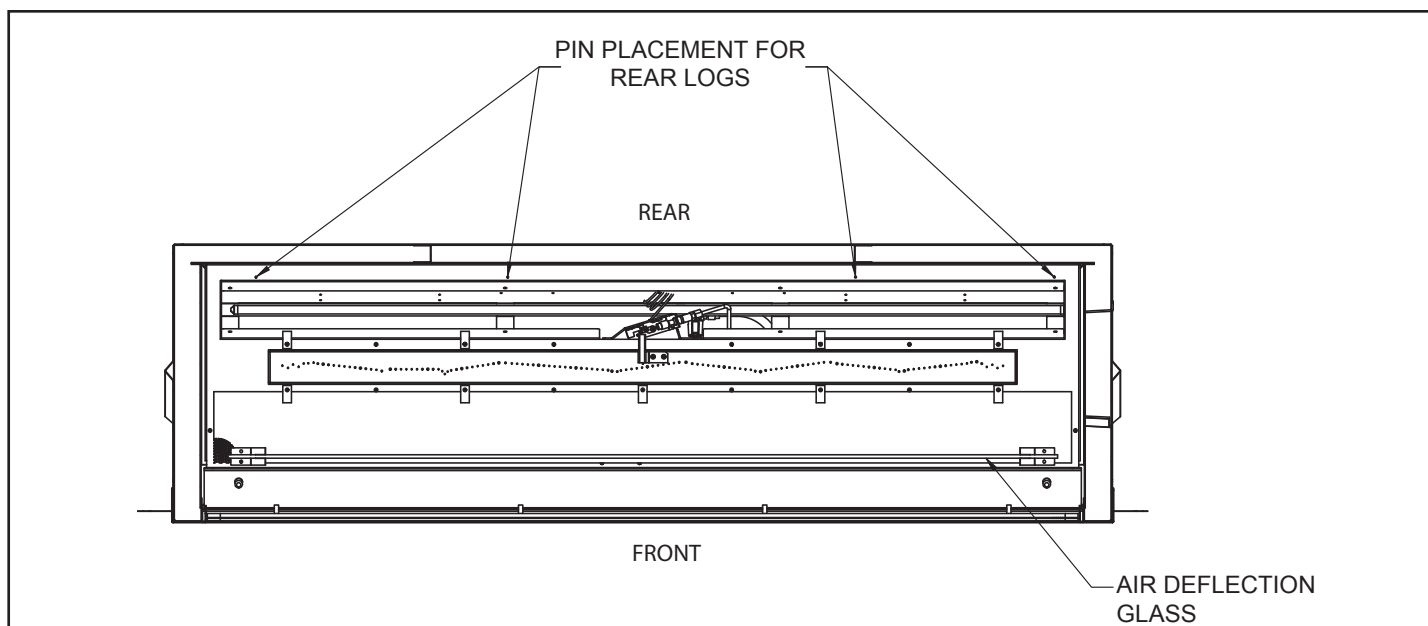

Figure 7.7— Pin Placement for Accessory Logs
1. Mount the four log support pin brackets using mounting holes and screws provided in locations indicated in Figure 7.7.